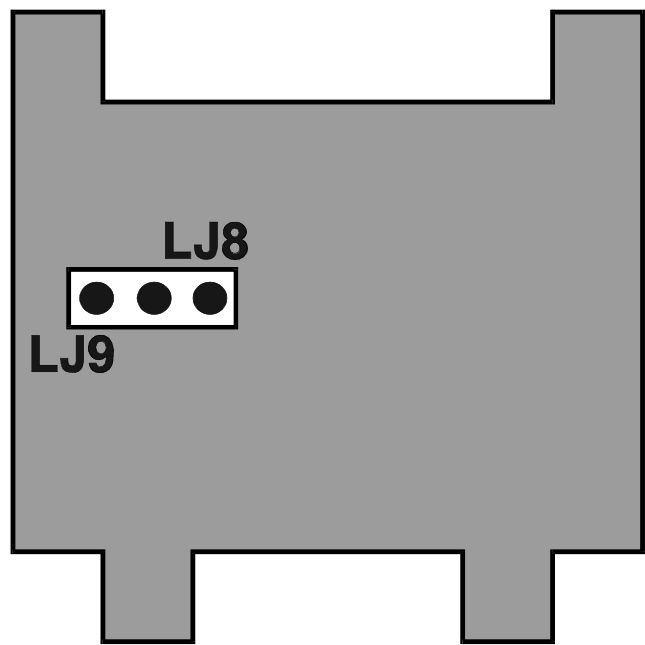

Figure 2-7 DC Output 2 Option PCB
The type of output for Output 2 and Output 3 is determined by the Option PCB fitted in the appropriate position (see Figure 2-1) and, in the case of the DC Output 2 Option PCB being fitted, the setting of Link Jumpers LJ8 and LJ9 on that Option PCB (see Figure 2-7 and Table 2-2). There are three types of option PCB:
- 2. DC Output Option PCB (link jumpers as in Figure 2-7 and Table 2-2) - Output 2 only